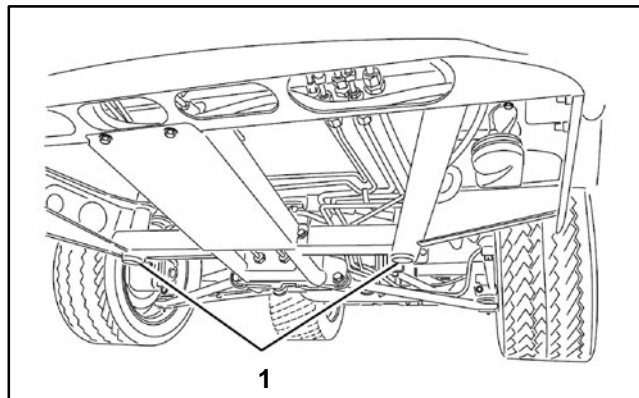

Figure 1
3. The jacking point at the front of the vehicle is under the front center frame support (Fig. 1). When jacking up front of vehicle, always place a wood block (or similar material) between jack and vehicle frame support.